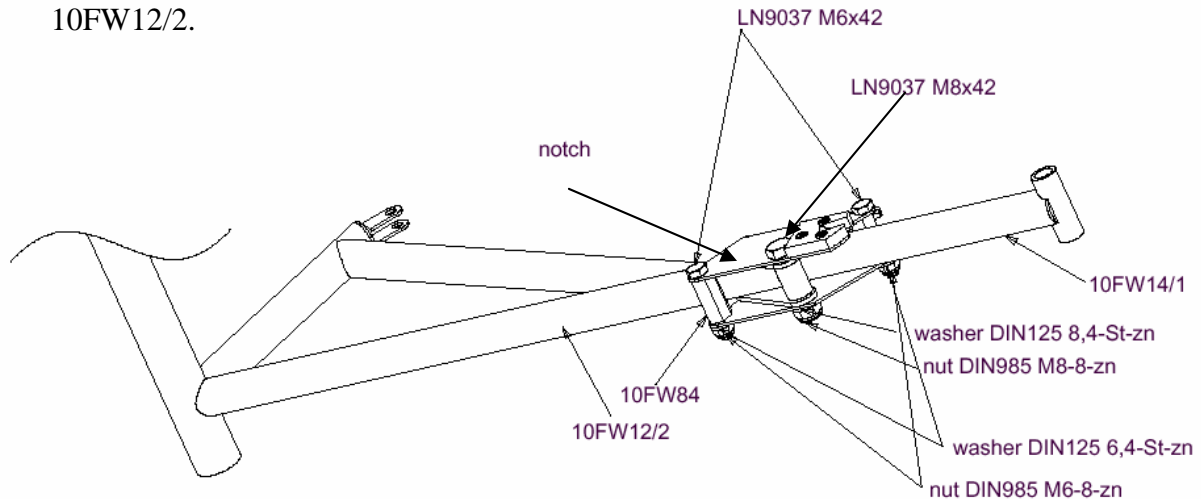

figure 4: installation of the notch
4. Push the notch unit over the lugs of strut 10FW12/2 and install the bolt LN9037-M8x42 from the inside to the outside according to figure 4. If a grub screw DIN913 M5x8 is already installed in the notch it must be removed.
5. Mount the hexagon 10FW84 (with eccentric borehole) into the notch unit according to figure 4. Mount all bolts from the inside to the outside.